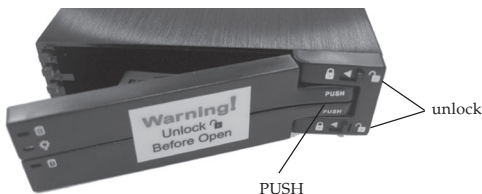

Figure 3: Opening cover
1. Unlock the upper and lower covers, then press **PUSH** to open them, see **Figure 3**.